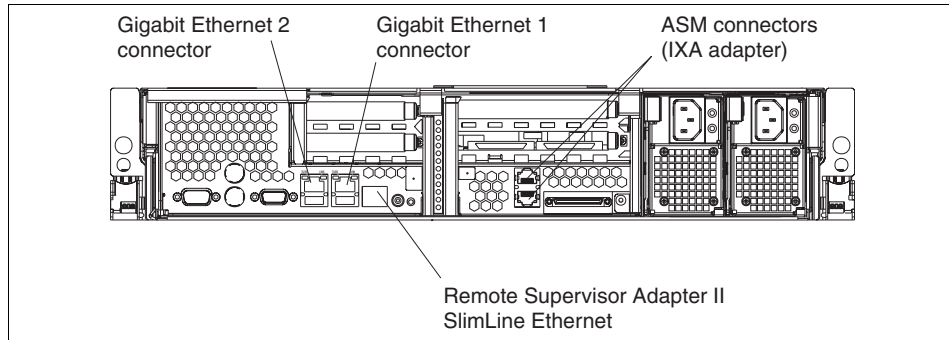

Figure 2-9 Rear ports of the xSeries 346
- ▶ x346: Figure 2-9 on page 20